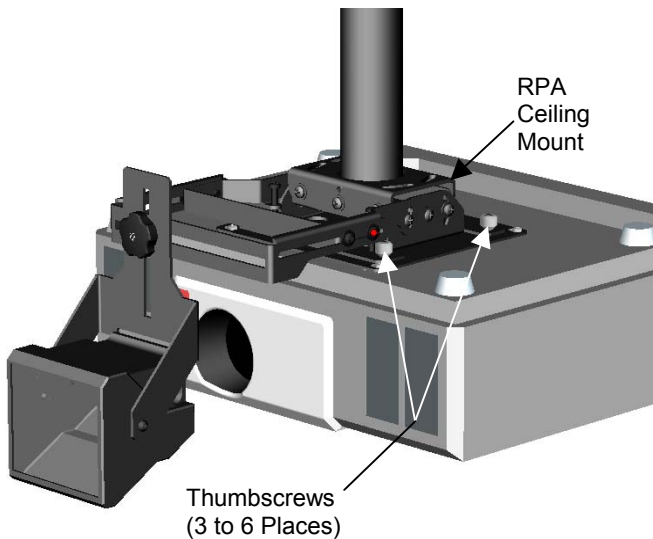

Figure 3. Completely Installed PAN-1 — Example
4. Loosen the thumbscrews securing the projector to the RPA ceiling mount (see Figure 3).